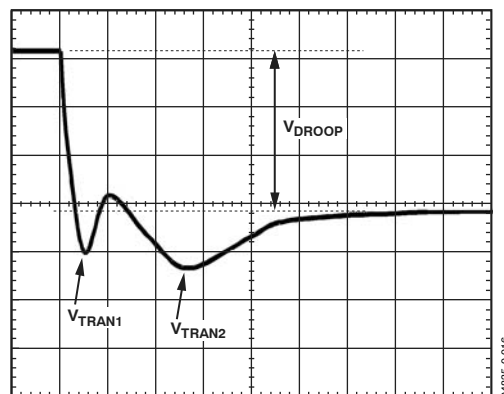
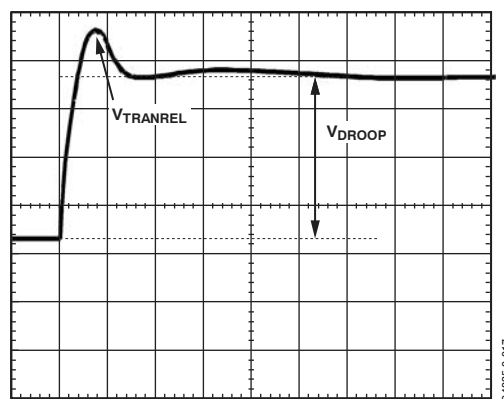

Figure 16. Transient Setting Waveform
Figure 17. Transient Setting Waveform
19. With the dynamic load still set at the maximum step size, expand the scope time scale to see 2  $\mu$ s/div to 5  $\mu$ s/div. The waveform may have two overshoots and one minor undershoot (see Figure 16). Here,  $V_{DROOP}$  is the final desired value.
21. For load release (see Figure 17), if  $V_{TRANREL}$  is larger than  $V_{TRAN1}$  (see Figure 16), there is not enough output capacitance. Either more capacitance is needed, or the inductor values need to be smaller. (If inductors are changed, start the design again using the spreadsheet and this tuning procedure.)